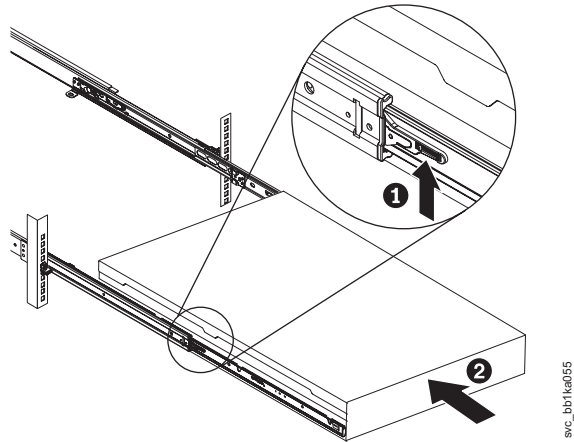

Figure 125. Raising the SAN Volume Controller 2145-CF8 or 2145-CG8 locking levers of the slide rails of the rack
12. Lift the locking levers ( 1 in Figure 125 on page 138) on the slide rails and push the server 2 all the way into the rack until it clicks into place.